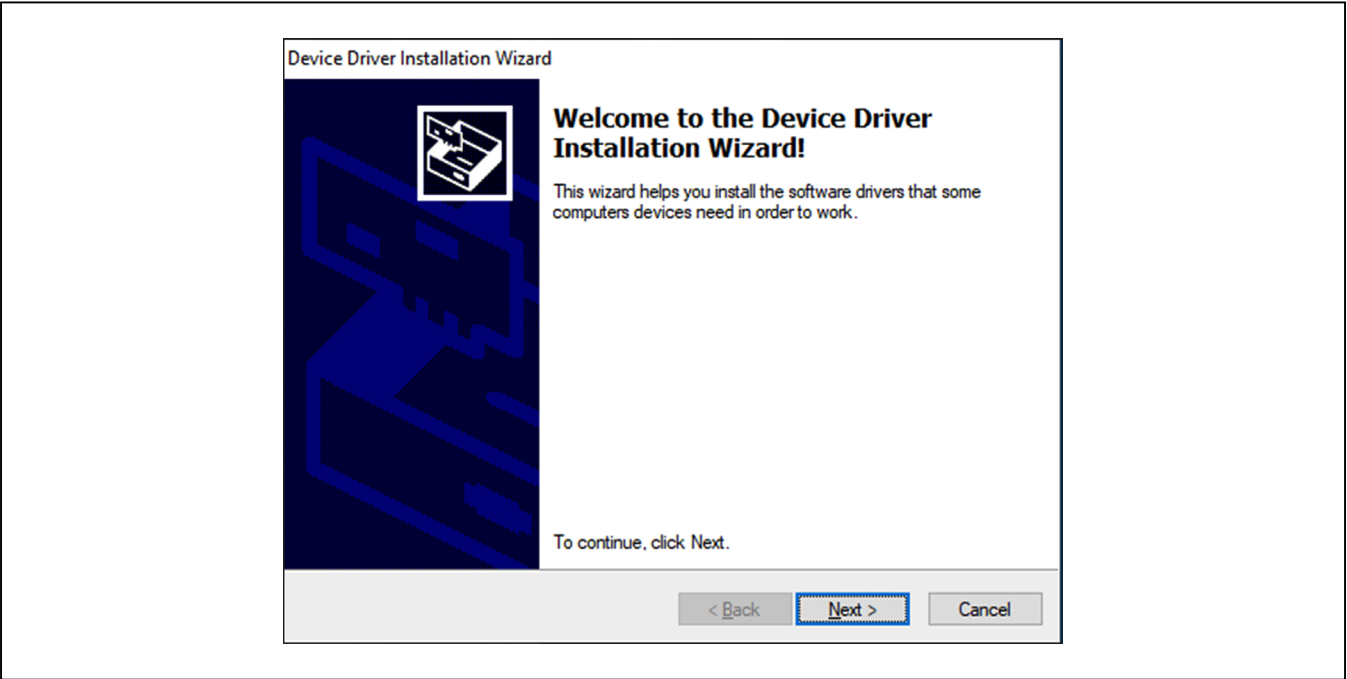

Figure 3. DS9481P-300# Driver Installation
- 4) Follow the instructions in the wizard and click **Next** to install the EV kit software and required drivers (Figures 3 and 4).